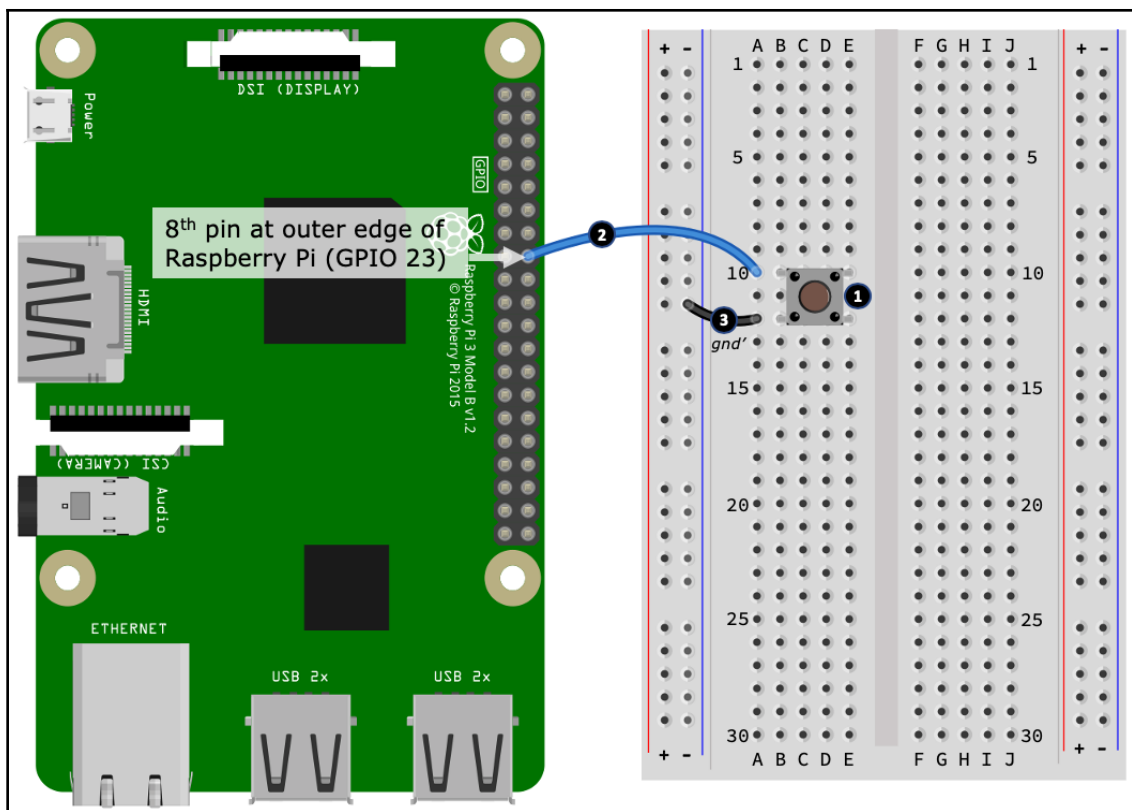

Figure 2.3 – Connecting the push button
Figure 2.3 illustrates the push button connection we need to create on our breadboard. Please refer to this as you follow the forthcoming steps:
Here is how to connect the push button into your breadboard and connect it to your Raspberry Pi. The following step numbers match the numbered black circles in *Figure 2.3*:
1. Position the button on the breadboard as shown. It does not matter exactly which row of holes the button goes into, however, *Figure 2.3* shows the button positioned (top-left leg) at hole **B10**.